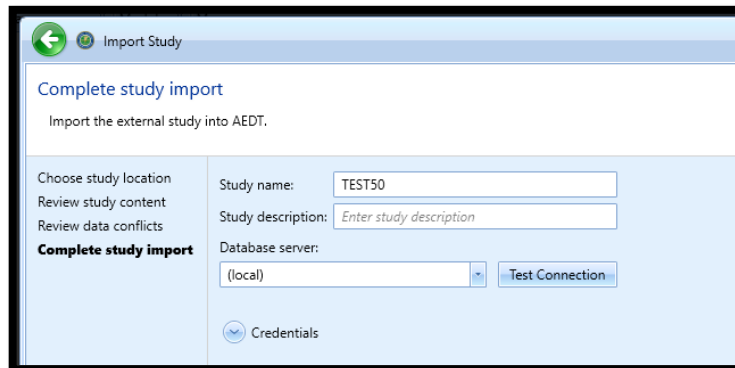

Figure 66. Complete study import
6. In the *Complete study import* step, enter a unique *study name* (Figure 66).